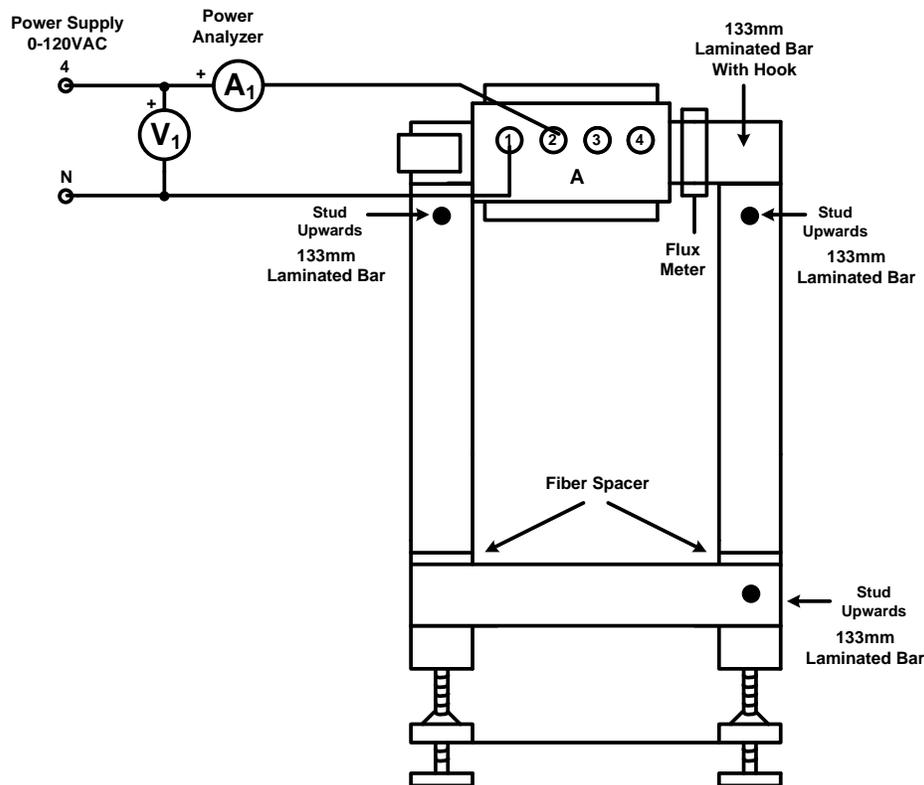

Figure 4: Magnetic Circuit with Air Gap
Step 2: Build the circuit in Figure 4